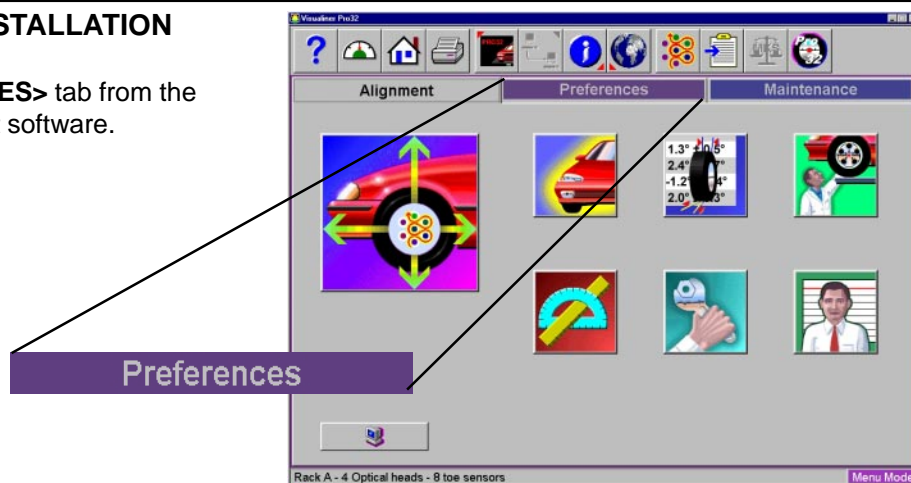

Figure 3-28
1. Choose the **<PREFERENCES>** tab from the main menu of the alignment software. (Figure 3-28)